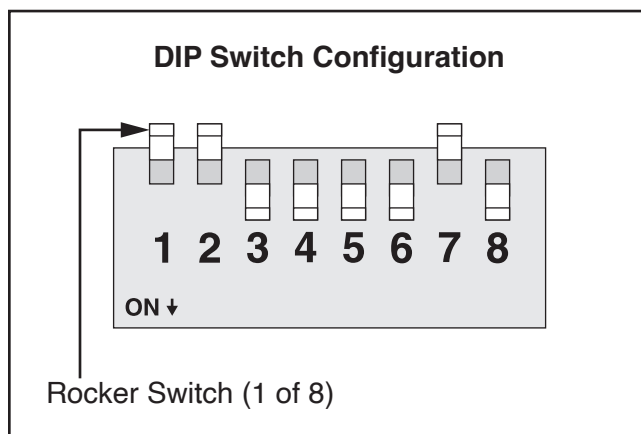

Figure 79. Stepper driver DIP switch configuration.
4. Compare stepper drivers DIP switch configuration to diagram in **Figure 79**.